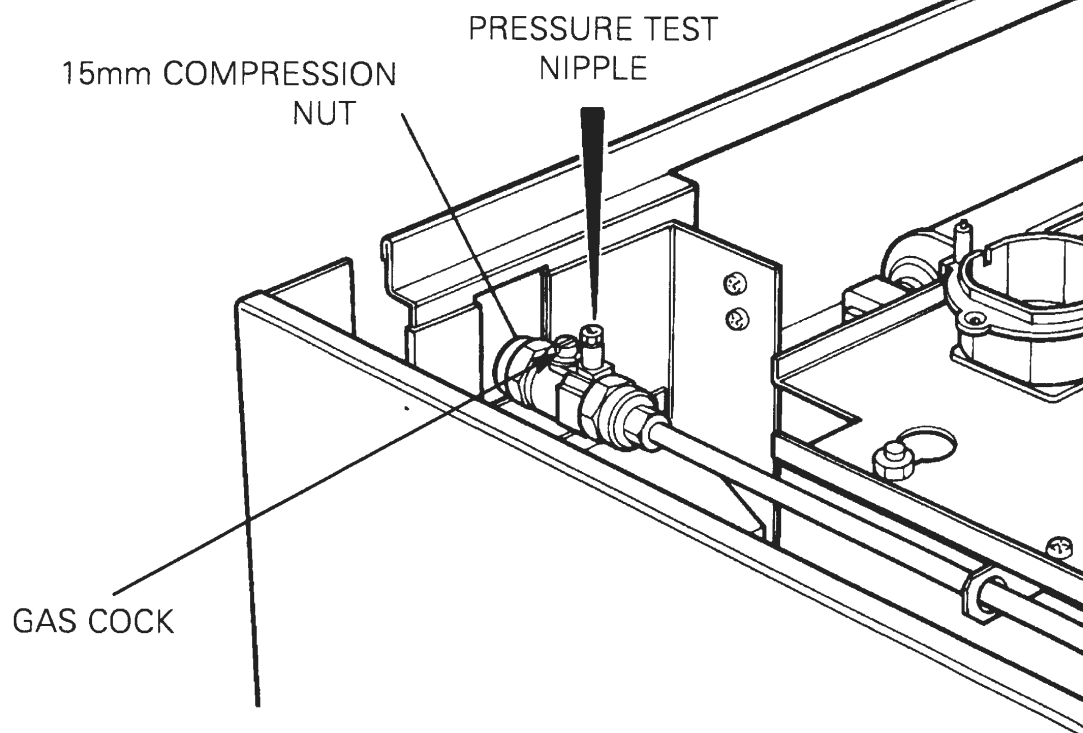

Fig. 9.5
2. Make final gas connection to the cooker (15 mm compression) into the combined gas cock/pressure test fitting (See **Fig. 9.5**). Check for gas tightness after connecting the gas supply.
The pressure test point is situated at the rear left hand side of the appliance just below hotplate level. (**Fig. 9.5**).